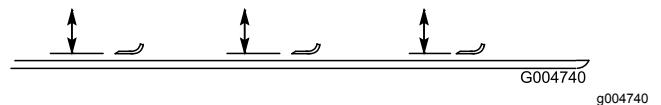

Figure 105
2. Rotate the blade until the ends face forward and backward and measure from the inside of the mower deck to the cutting edge at the front of the blade (Figure 105).